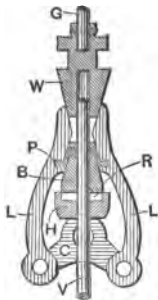

FIG. 81. CATCHER OF TREMPER CUT-OFF.
A. *G*, Fig. 81 is the lower end of the governor ball stem, which is securely fastened to the wedge *W*; *L L* are the lifters; *C* the bell crank, which is operated by a connection